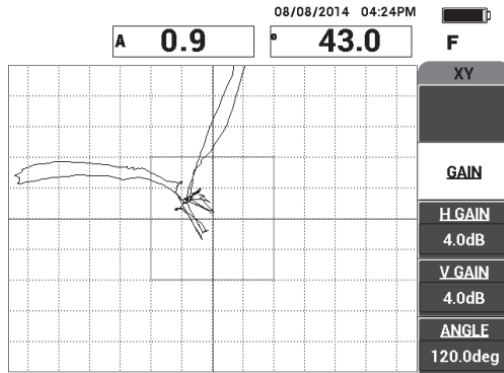

Figure 6-7 The scan over the disbonds
3. Scan over the far-side and near-side disbonds, and then, while you keep the probe moving over the disbonds, press the FREEZE key (❄) [see Figure 6-7 on page 136].